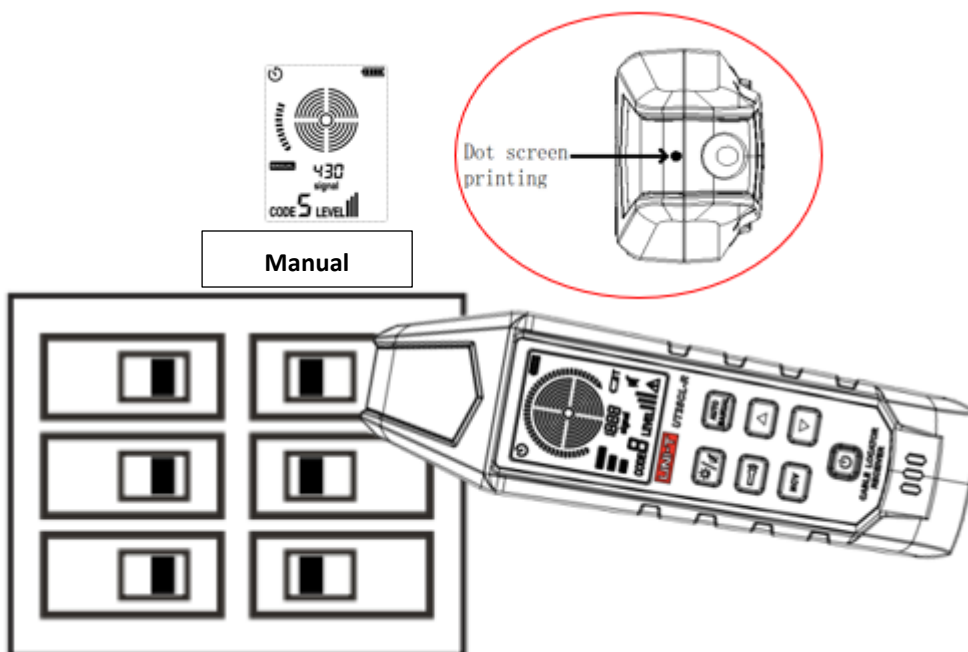

Figure 7.2.3b Align the dot screen printing to the circuit breaker
2. Align the dot screen printing (on the top of the receiver) to the circuit breaker, as shown in Figure 7.2.3b.